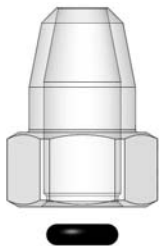
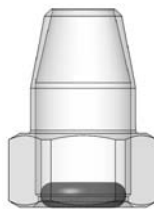

Figure 1
Figure 2
1. Place the appropriate O-Ring (Micro or Standard size) on a flat surface. Remove the O-Ring Ferrule (Micro or Standard size), and place the ferrule over the O-Ring and press gently. (Figure 1) The O-Ring should be seated flat in the ferrule as shown in (Figure 2).